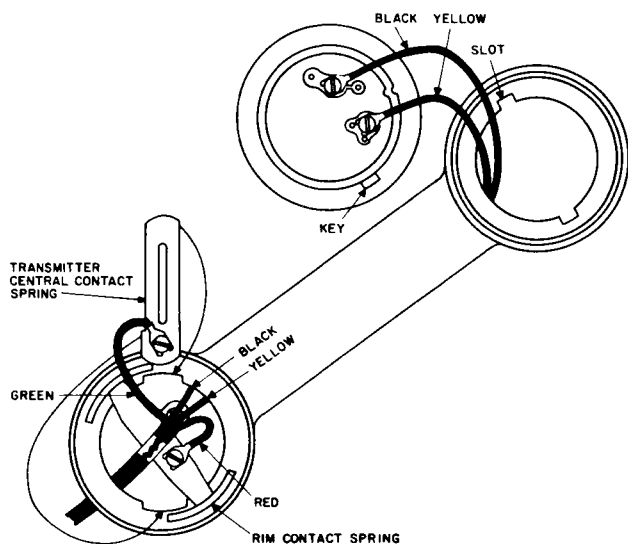

Figure 11. Type 810 handset wiring.
3.7 A Type 810 handset is used with the self-compensating Type 85 telephone. Piece numbers for the 810 receiver and transmitter capsules are D-51024-A and D-38379-A, respectively. Figure 11 shows the components and wiring of the Type 810 handset.
Remove the old cord from the handset and connect the new cord as shown in figure 11.